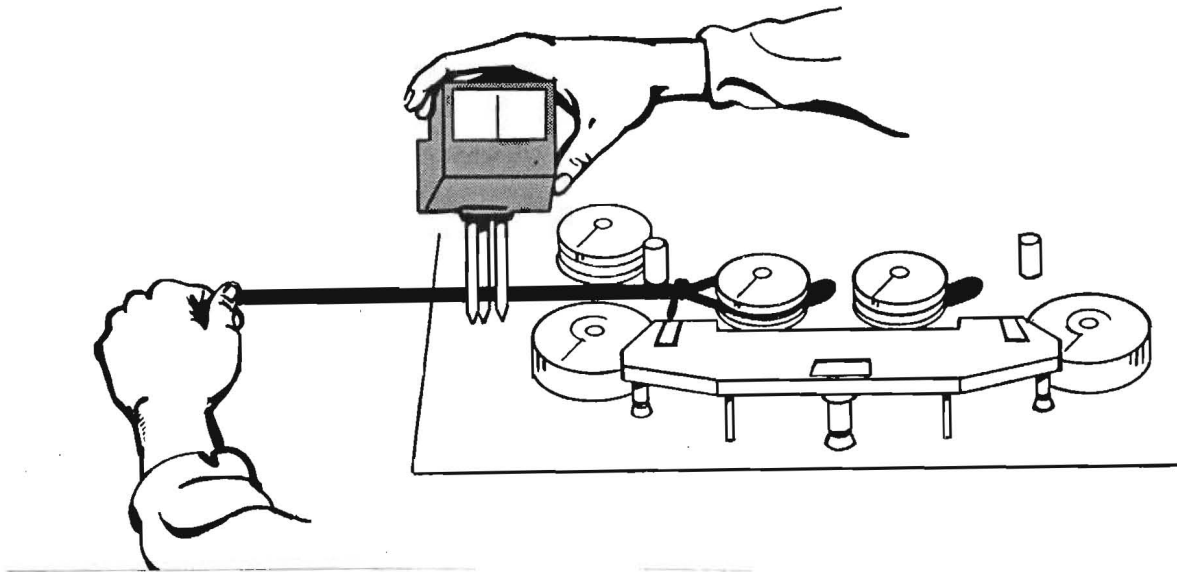

Figure 4-2, Supply and Takeup Tension Measurement
1. Using a tape "noose" on the supply tension sensor arm, measure the force necessary to maintain the sensor arm at its center position. Approximately 6 to 6.5 ounces yields a 4 ounce running tension measured at the head (see Figure 4-2), and a 5 ounce packing tension at the takeup reel.